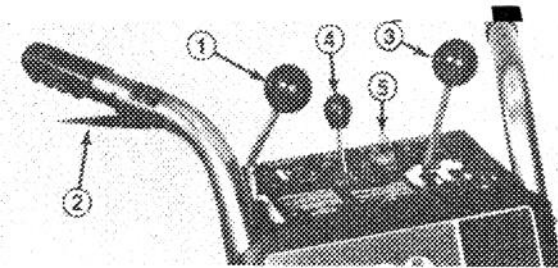

Figure 15
Auger Drive Control (Fig. 15) — Control has two positions: ENGAGE and DISENGAGE. To engage auger and impeller, push control forward until it stops in an over center position. To disengage auger and impeller, pull control backward.
Interlock Lever (Fig. 15) — Interlock lever must be compressed against right handle grip when auger drive or wheel drive control is engaged. The engine will shut off if lever is released when auger drive or wheel drive control is engaged. This is a safety feature that reminds the user to disengage auger drive and wheel drive controls before leaving operator's position behind the handles.
Wheel Drive Control (Fig. 15) — The control has seven positions: N—neutral (2), R1 and R2—reverse, 1, 2, and 3. To change speeds, move gear shift to position desired. Control must be held in R—reverse—when backing and when it is released, gear shift automatically returns to neutral. Use positions 1, 2, and 3 depending on snow conditions. Keep interlock lever compressed when shifting.
Throttle (Fig. 15) — Moving the throttle forward increases engine speed. Use only enough engine speed to throw snow to the place desired.
Ignition Switch (Fig. 15) — Switch has two positions: ON and OFF. Rotate key to ON before starting engine with the recoil starter. To stop engine, rotate key to OFF.